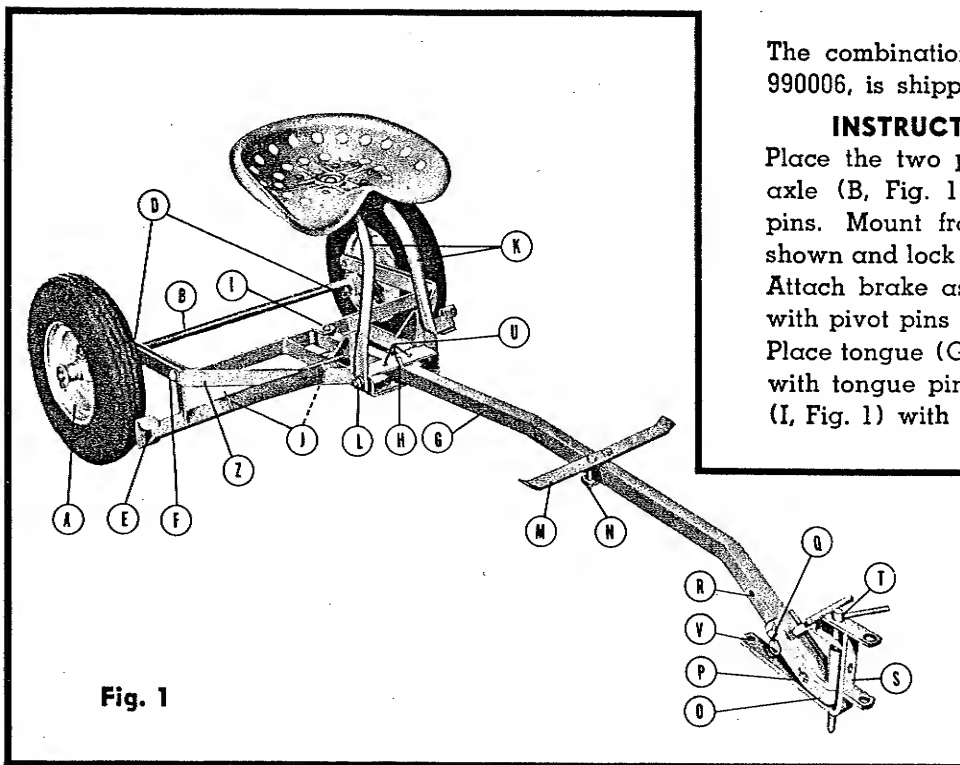
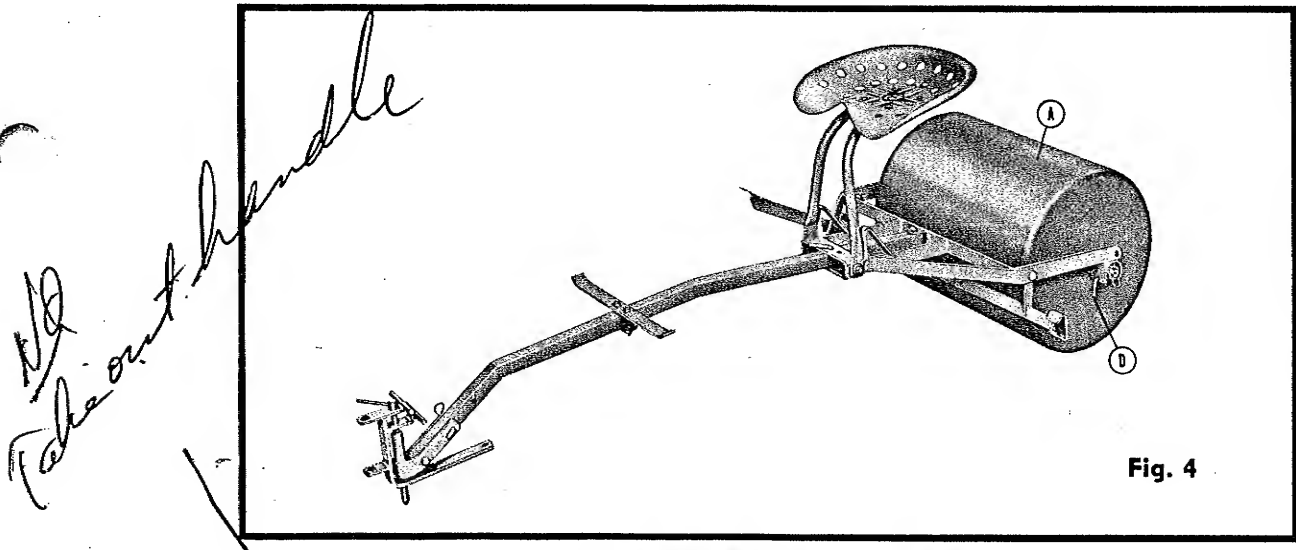

Fig. 1
Fig. 4
Place the two pneumatic tired wheels (A, Fig. 1) on axle (B, Fig. 1) and secure with washers and cotter pins. Mount frame assembly (Z, Fig. 1) on axle as shown and lock with pins and spring clips at (D, Fig. 1). Attach brake assembly (E, Fig. 1) to frame assembly with pivot pins and cotter pins as shown at (F, Fig. 1). Place tongue (G, Fig. 1) into position as shown securing with tongue pin and spring clip at (H, Fig. 1) and at (I, Fig. 1) with pin and cotter pin. Attach brake spring
to brake lever and frame with cotter pins as shown at (J, Fig. 1). Bolt seat support (K, Fig. 1) to frame assembly as shown at (L, Fig. 1) using the two bolts and bushings. Seat will then be free to pivot so that it can be used as a latch. Attach foot rest (M, Fig. 1) to tongue with two bolts and clamp (N, Fig. 1). Clevis (O, Fig. 1) should now be mounted to tongue with pin
(P, Fig. 1) and locked with cotter pin as shown. Tongue pin and spring clip at (Q, Fig. 1) can be placed in the location as illustrated or into position at (R, Fig. 1). Instructions for proper setting of the tongue pin are located under paragraph — "Operation Instructions". Mount frame extension (S, Fig. 1) to clevis with hitch pin (T, Fig. 1) as shown.
Replace pivot pins and spring clips in box pivot assembly for safe keeping. Remove spring clips and pins (D, Fig. 1) from frame assembly (Z, Fig. 1). Wheels and axle can now be removed from frame and lawn roller (A, Fig. 4) installed to frame assembly as shown in Fig. 4. Lock to frame with pins and spring clips as shown at (D, Fig. 4).
1. To permit sulky frame to track directly behind tractor or to either side, position tongue pin (H, Fig. 1) into either one of three holes provided in sulky frame at (U, Fig. 1). This adjustment allows grass or weeds to be cut before being rolled or stamped upon.
2. When using front attachments with sulky, trailer body or lawn roller, remove tongue pin (Q, Fig. 1) and place in hole on tongue at (R, Fig. 1) for safe keeping. This permits front mounted attachment to follow contour of the ground.
3. Seat is adjustable for length on seat support (K, Fig. 1) by loosening bolt and plate under seat and adjusting to desired length.
6. Two-gang companion mower attachment can be used with combination sulky. Tongue of sulky is arched as shown in Fig. 1 allowing mowers and hitch to be attached to frame extension at (V, Fig. 1) with pin and spring clip furnished.